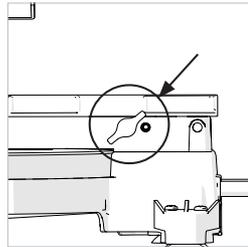

Fig. 14
- Loosen the thumbscrew. **(Fig 14)**